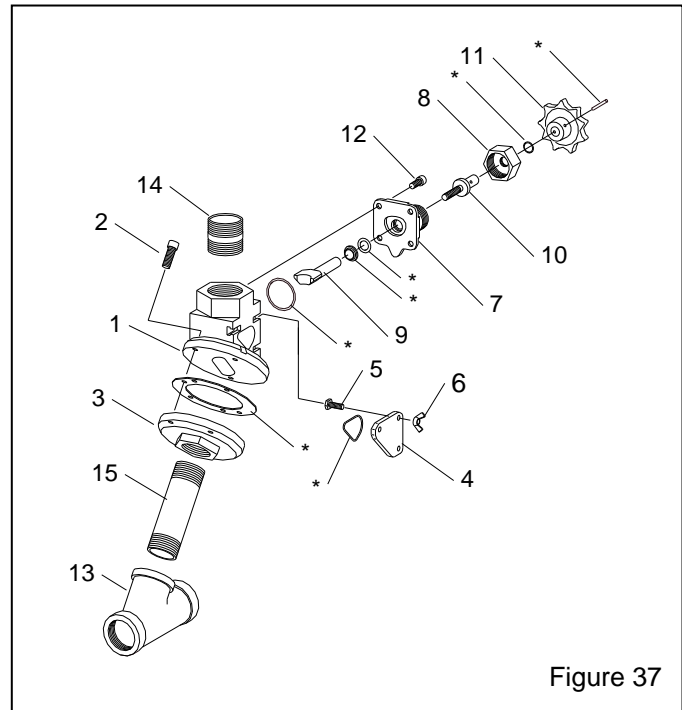

Figure 37
8.4 MQV Manual Quantum Abrasive Metering Valve, Figure 37